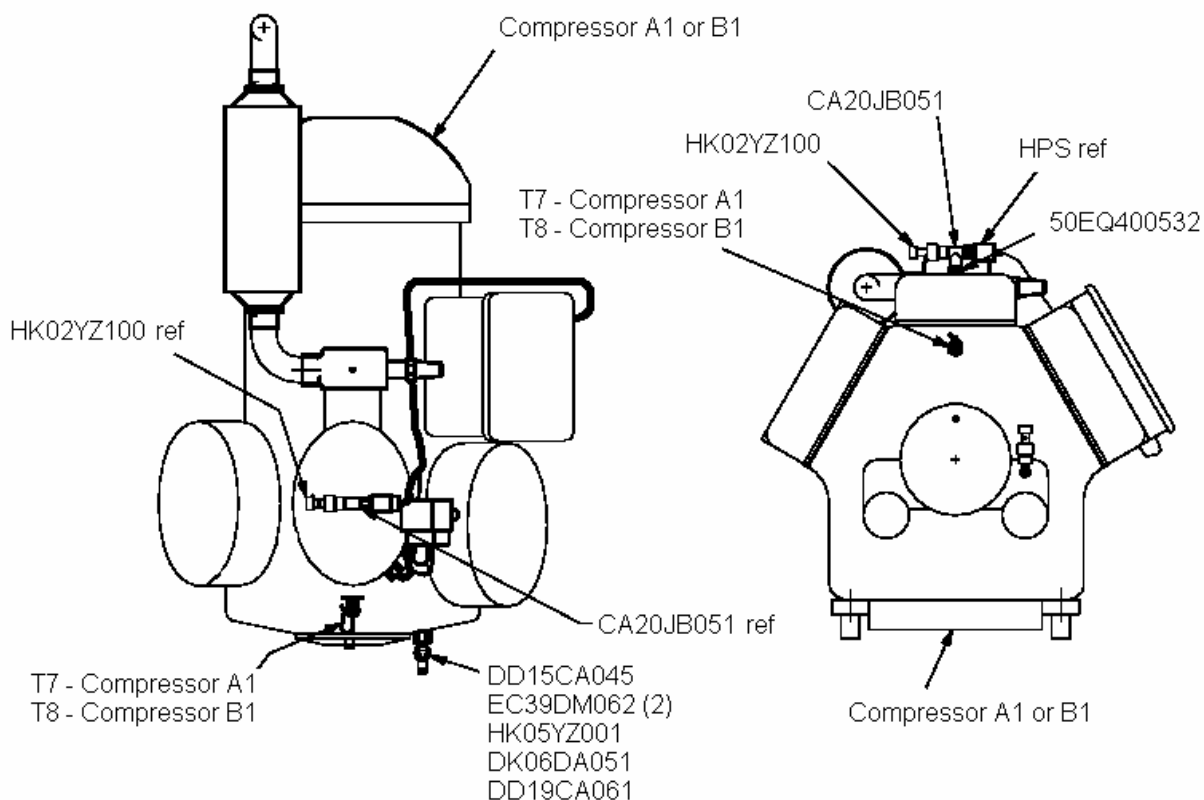

Figure 18 - Compressor A1/B1 Transducer Mounting
- For units without an oil pressure safety switch installed, remove the Shrader Valve or pipe plug from one of the low side pressure ports of the compressor. Attach the DD15CA045 to the adapter DK06DA051 and install the assembly into the port previously exposed. Install (2) Shrader valve cores, EC39DM062, one in the branch and one in the run of the tee, DD15CA045. Install one Pressure Transducer, HK05YZ001 to branch of the tee. Install a Flare Cap, DD19CA061 on the tee run flare fitting. Be sure to install the correct transducer. Installing the incorrect transducer will lead to faulty pressure readings. Do not use thread sealer for the pressure transducer. See Figure 18 for fitting and transducer locations.
For units with an oil pressure safety switch installed, remove the flare cap from the tee. Install one Pressure Transducer, HK05YZ001 to the tee. Be sure to install the correct transducer. Installing the incorrect transducer will lead to faulty pressure readings. Do not use thread sealer for the pressure transducer. See Figure 18 for fitting and transducer locations.